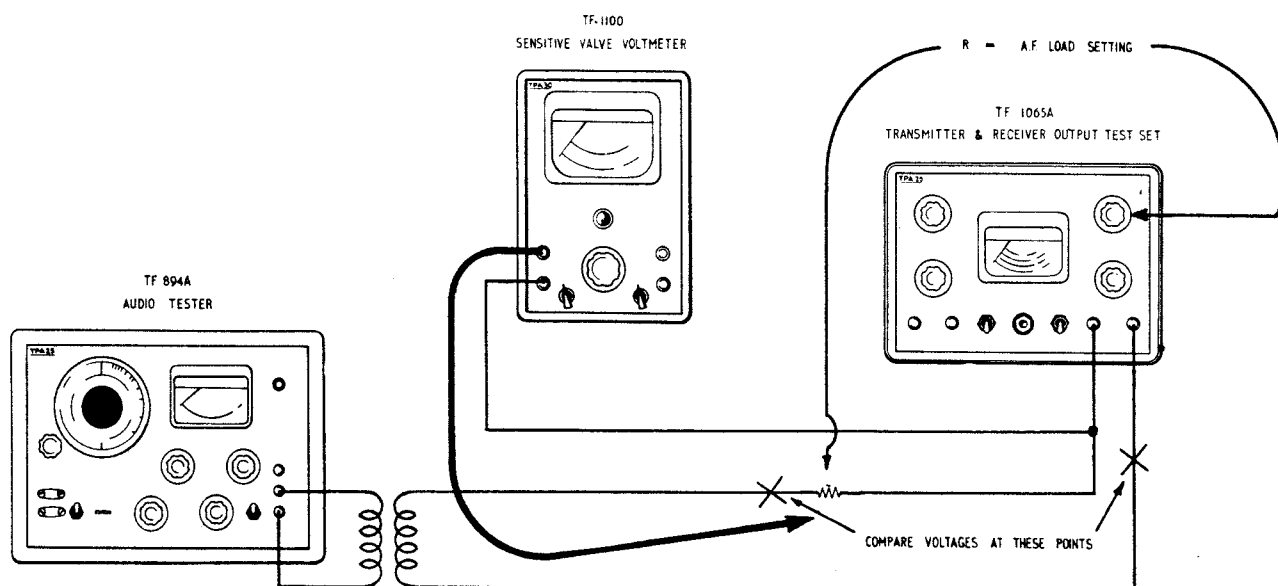

Fig. 4.8 Measuring A.F. Input Impedance
- (1) Switch A.F. LOAD to 600 Ω , A.F. POWER to 3 W.
- (2) Connect the output from the power source, at 1 kc/s and 600 Ω , via the A.F. transformer and a 600 Ω resistor to the A.F. input terminals (see Fig. 4.8).
- (3) Connect the earthy valve voltmeter lead between the resistor and the A.F. INPUT terminal.
- (4) Set the 1 kc/s level to provide a convenient voltmeter deflection when connected across the resistor.
- (5) The voltage across the A.F. terminals should be within 5% of the voltage across the resistor. If necessary adjust RV6 to achieve this.
- (6) Select each of the other A.F. load positions adjusting the series resistor to each nominal value in turn. For the lower impedance ranges switch the oscillator output impedance to match. If your oscillator has a fixed output impedance use a matching transformer. In every case the A.F. terminal voltage should match the voltage across the resistor within 5%.
- (7) If necessary reset RV6 for the greatest overall accuracy.